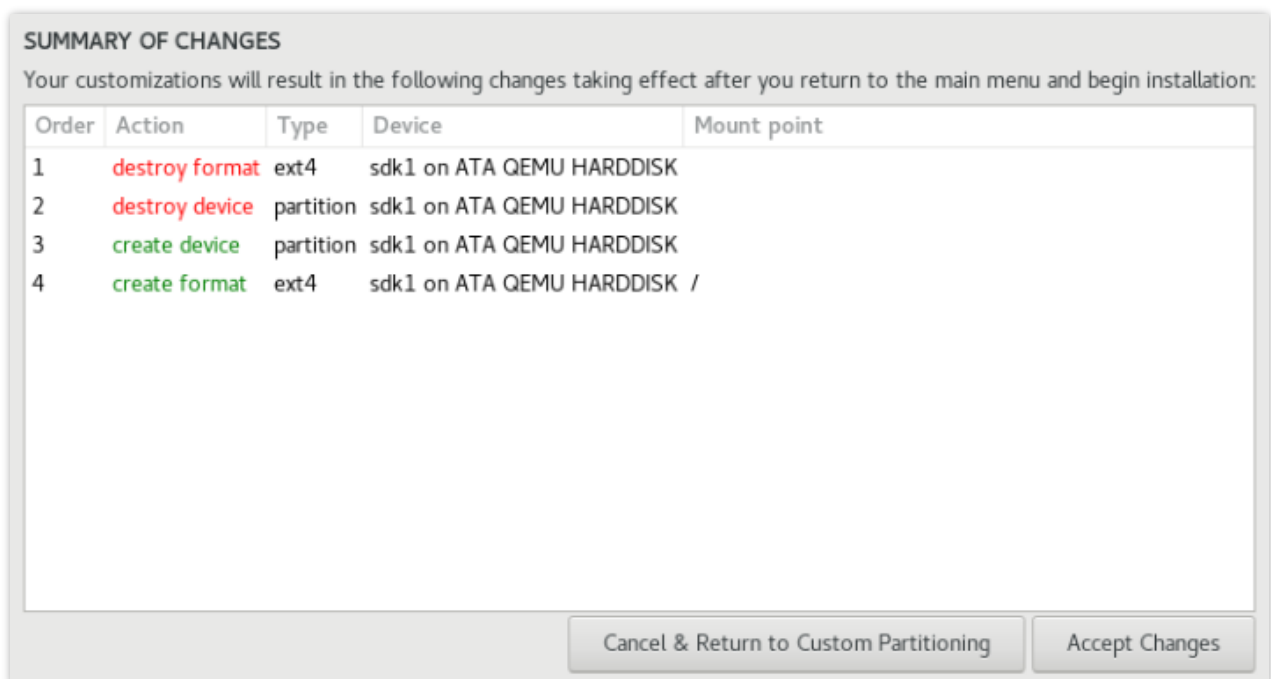

Figure 16. Summary of changes window
- In the opened *SUMMARY OF CHANGES* window, click **Accept Changes** (Figure 16).